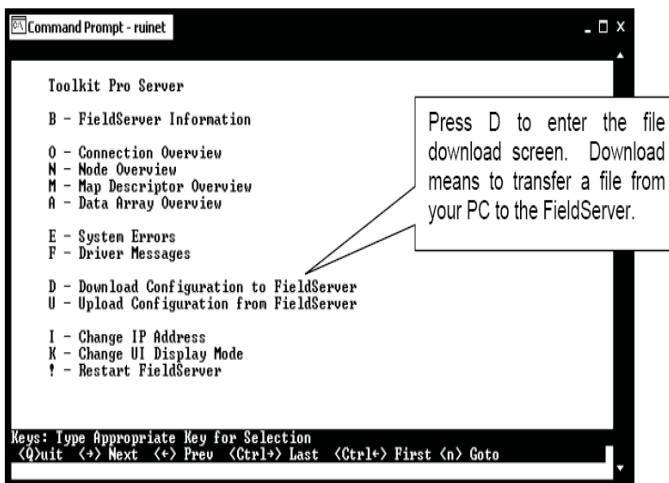

Figure 17: Download new Config.csv file
13.) From the RUINET Main Menu, type <D> to Download the new config.csv file to the FieldServer (Figure 17).